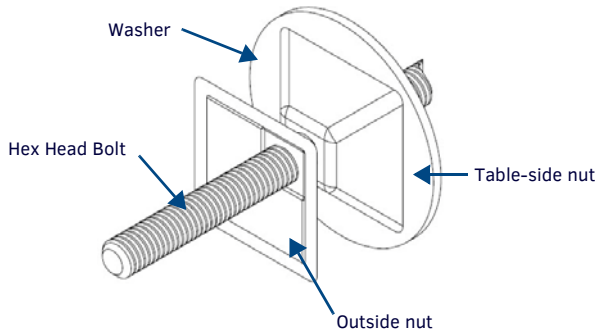
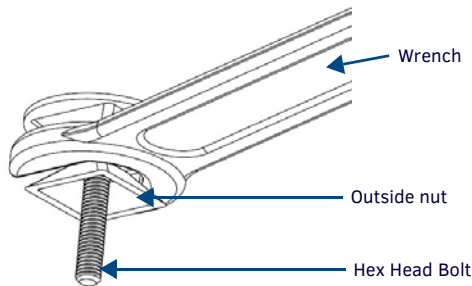

FIG. 6 TAMPER-RESISTANT NUT INSTALLATION, DETAIL
FIG. 7 TIGHTENING OF TAMPER-RESISTANT NUTS, DETAIL
- On the underside of the table, put a washer and then one of the tamper-proof nuts on the end of each hex head bolt (FIG. 6).
- With the wide side facing away from the table surface, put the spare tamper-proof nut on the end of one of the two bolts and finger-tighten the nut (FIG. 6). With the two nuts touching, use an adjustable-head box wrench to further tighten the table-side nut (FIG. 7). DO NOT OVERTIGHTEN.